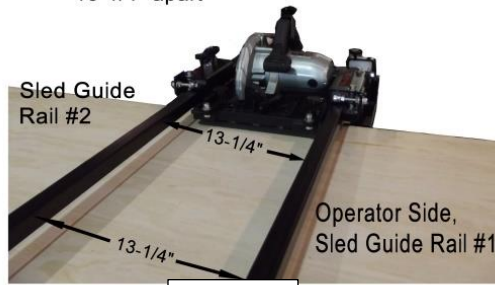

Fig C-5
- 6) Next, position the sled at one end of the guide rails against the end frame. You will now adjust and secure Guide Rail #2 on both ends of the rail. Hand tighten the 3/8" nuts and bolts on either end of Guide Rail #2. Using a measuring tape, adjust Rail #2 so it is 13-1/4" on both ends of the Operator Side, Guide Rail #1. (Fig C-5) (13-1/4" is the inside measurement From Rail #1 to Rail #2) It is important to ensure both rails are parallel to each other. Tighten the 3/8" nuts and bolts on either end of Rail #2 ensuring Rail #2 does not move when you tighten the nuts and bolts. After the rail #2 is secured, re-check your measurement. Next, slide the sled back and forth. The sled should have slight resistance but move freely back and forth. If the sled does not move freely, then adjust Rail #2 to slightly less than 13-1/4" on both ends of rail #2 ensuring the rails stay parallel to each other and re-tighten the nuts and bolts. It is important to be sure Rail #2 is parallel to Rail #1. It is important to keep the guide rails clean and waxed. A good quality furniture polish applied once a day of before use does the trick nicely.